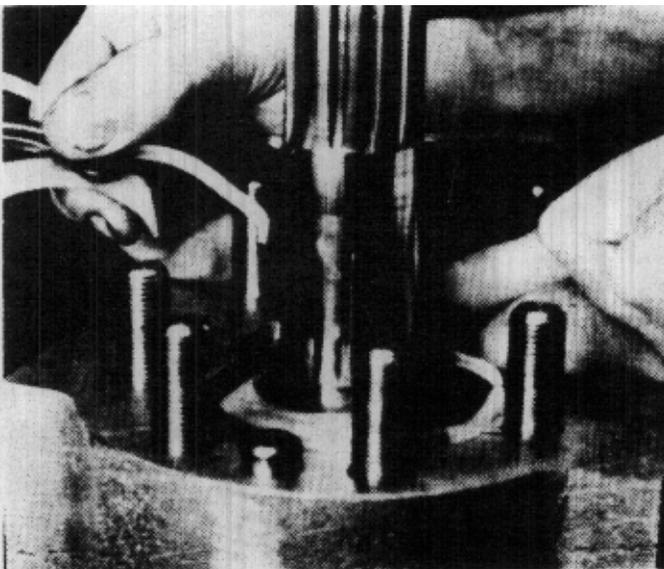

FIGURE 78
6. Remove o-ring (33) from the flange.
7. Remove isolation plates (10), sealing strips (17), end separators (15), center separators (16), back-up ring (14), and o-ring (35). (No isolation plates nor separators in SPM25.) (Fig. 78)